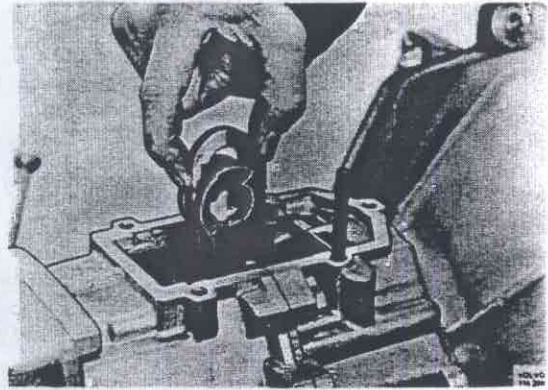

Fig. 43-51. Removing gear shift bar
10. Remove the intermediate gear shift bar, Fig. 43-51. Remove the packing.